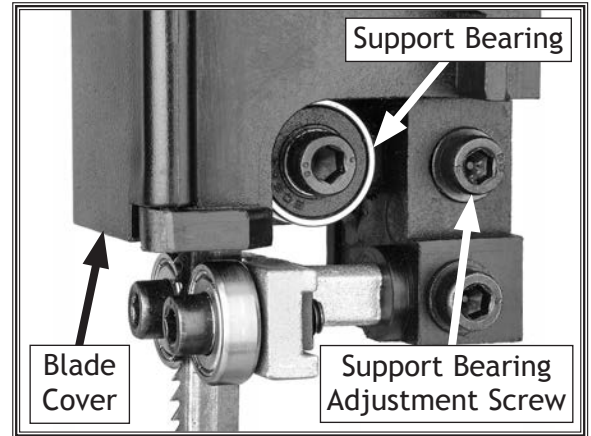

Figure 24. Upper support bearing assembly and controls.
2. Open blade cover and loosen support bearing adjustment screw (see Figure 24).